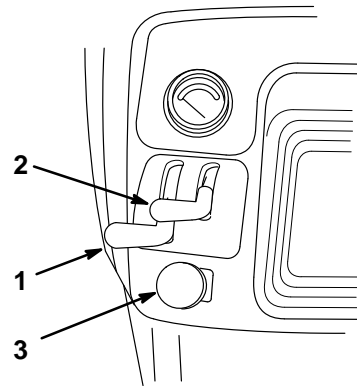

Figure 13
3. Push the PTO (power take off) switch to OFF (Fig. 13).
4. Move the choke lever to ON (if the engine is cold) (Fig. 13).
5. Move the throttle lever halfway to FAST (Fig. 13).
7. After the engine starts, gradually move the choke lever to OFF (Fig. 13). If the engine stalls or hesitates, move the choke lever back to ON for a few seconds. Then move the throttle lever to the desired setting.
1. Move the throttle lever to SLOW (Fig. 13).